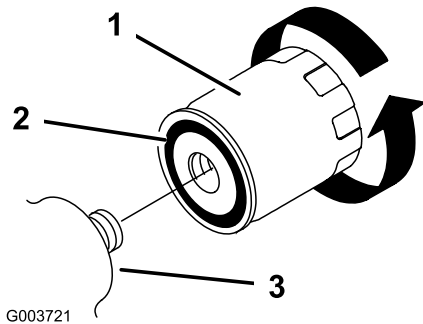

Figure 40
6. Remove the old filter (Figure 40) and wipe the surface of the filter adapter clean.
7. Apply a thin coat hydraulic fluid to the rubber gasket on the replacement filter (Figure 40).
8. Install the replacement hydraulic filter onto the filter adapter (Figure 40). Tighten it clockwise until the rubber gasket contacts the filter adapter, then tighten the filter an additional 1/2 turn.